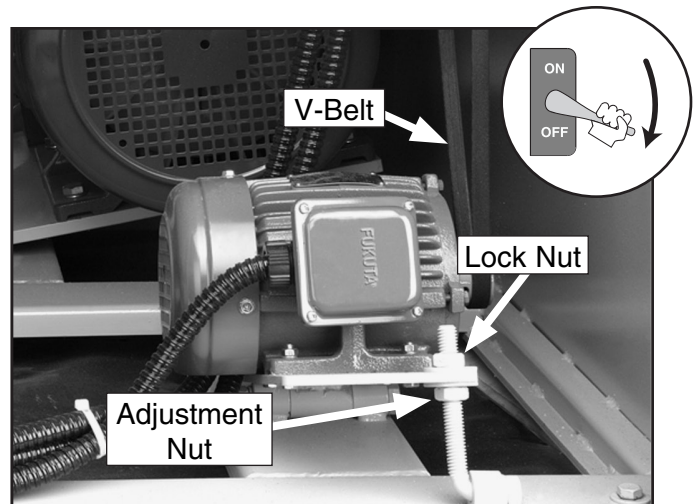

Figure 35. Table elevation V-belt.
- Loosen the lock nut (**Figures 35 & 36**).